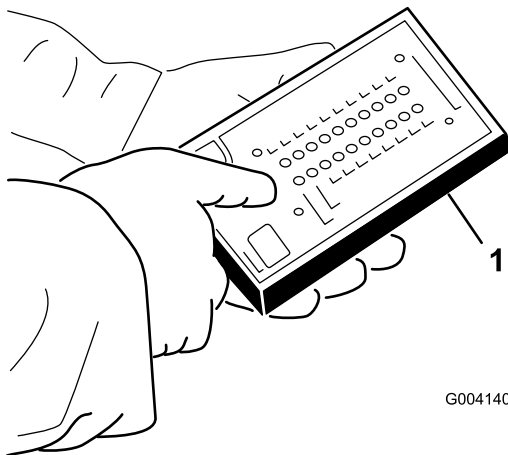

Figure 21
4. Connect the Diagnostic ACE display tool connector to the diagnostic connector (Figure 21).